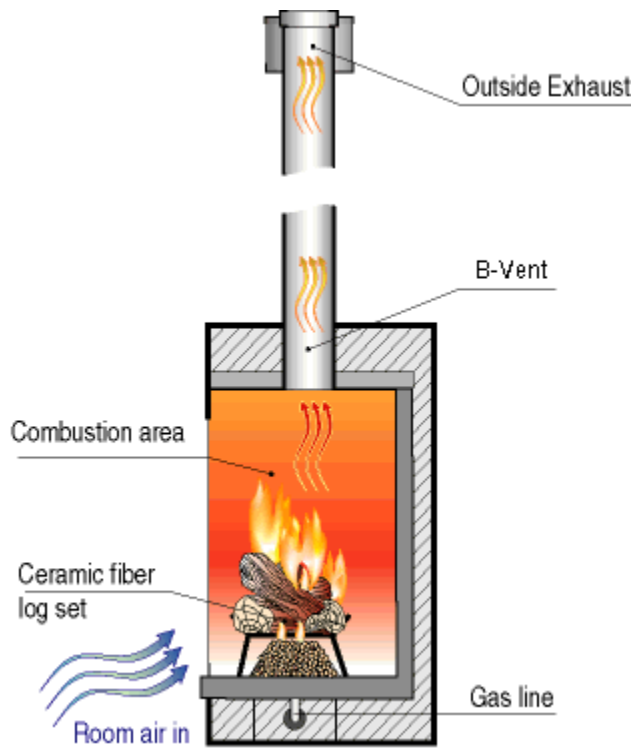

Figure 18 Natural draft B-vent. (adapted from Chew/Fireside Group Inc., 2017). Used with permission.
- Natural draft B-vent (Figure 18)
The basic operation of the on-demand system shown in Figure 18 is as follows: